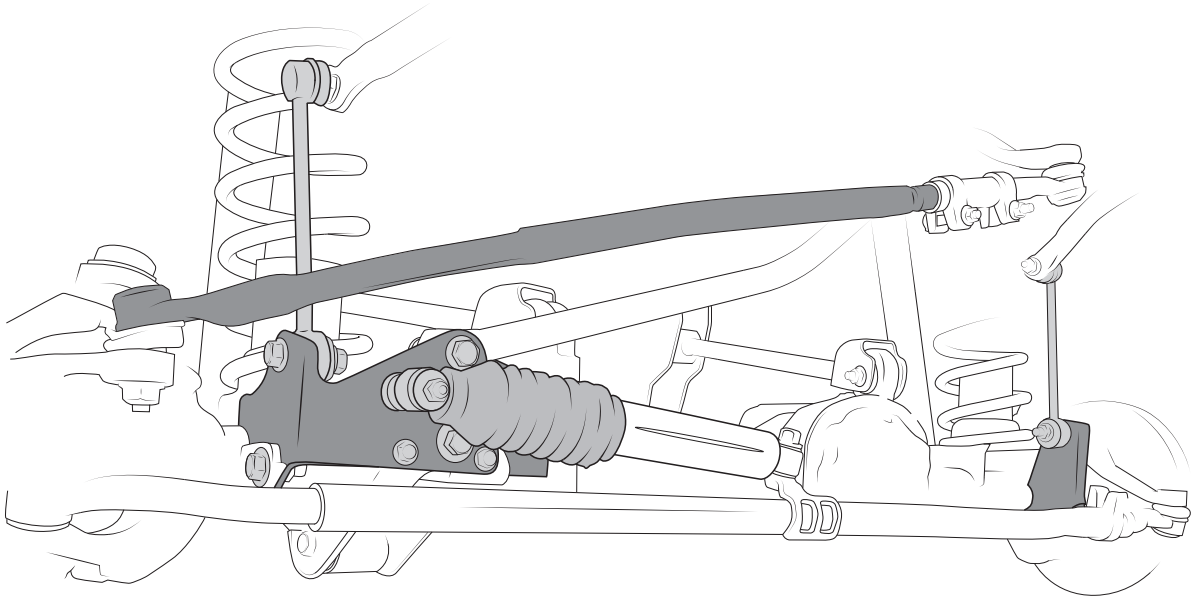

Figure 7
- B. Insert original trackbar bolt and flag nut through passenger-side front axle brackets and trackbar but do not tighten at this time (refer to Fig. 7).
- A. For each side attach the upper end stud to the stabilizer bar in the same manner as the original front links had been (nut on frame side of bar.) NOTE: The upper stud has a different thread than the rest of the M12 fasteners in the suspension—it is a “normal” pitch versus a “fine pitch.” Tighten to 40 ft/lbs. (refer to Fig. 7 for proper orientation.)